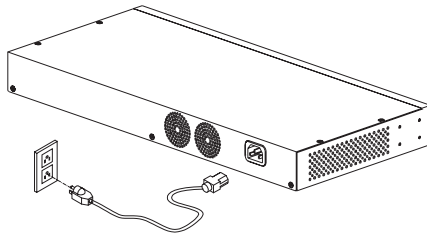

Figure 2-2-1 Connecting to the power
3. Check if the **PWR** LED lights up. If it lights up, then the switch is ready to be connected to the network. See Figure 2-2-1.